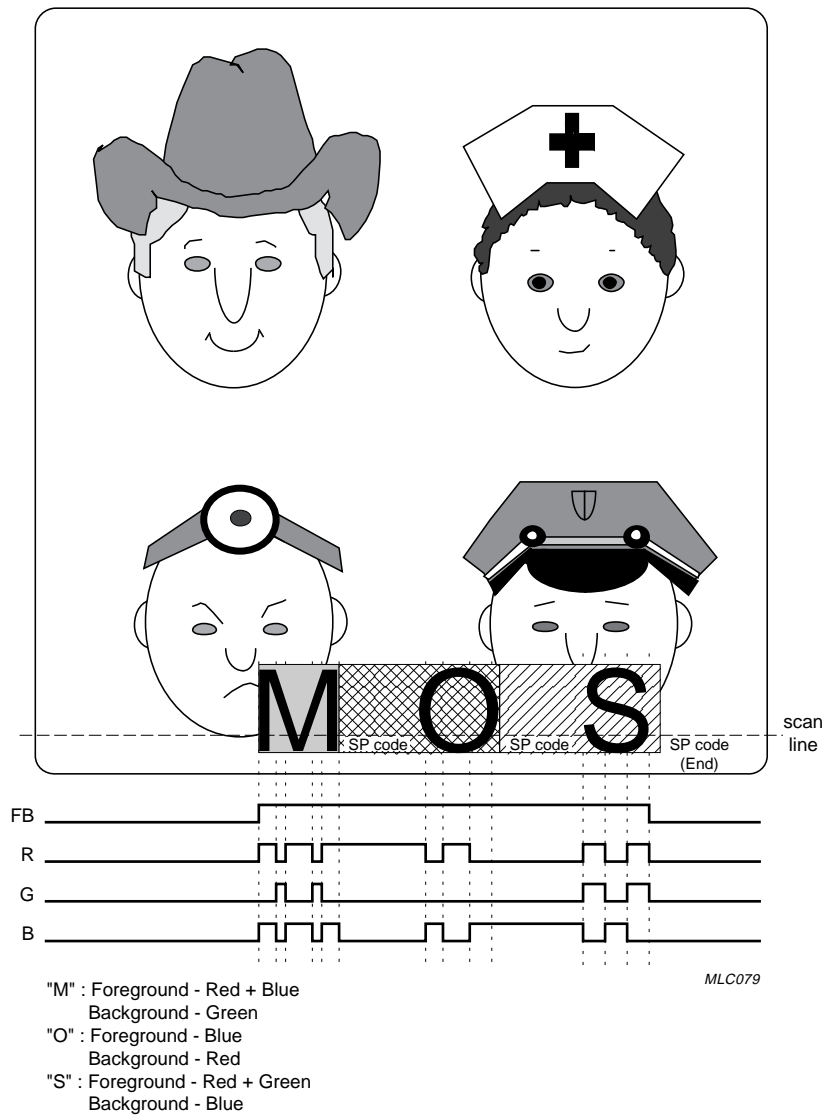

Fig.29 Mode 2: Box shadowing (background) mode.
- Mode 2: Box shadowing mode. The Space Code is displayed as a transparent pattern with selected background colour. This will also be the background colour of the character following the Space Code. However, when the Space Code is used as an end bit, it will be displayed as a transparent pattern superimposed on the video (see Fig.29). The Carriage Return Code in Mode 2 is also displayed as a transparent pattern superimposed on the video signal.